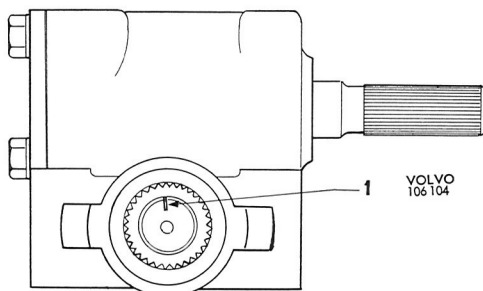

Fig. 6-62. Center position
- Place the steering gear in the middle position (Fig. 6-62). Remove the four bolts (1, Fig. 6-41) for the upper cover (6). Pull up the cover and pitman arm shaft a bit and drain the oil. Pull out the cover and pitman arm shaft.
- Remove the bolts and lower cover (19). Take care of the spacers (22).
- Carefully knock on the steering worm shaft (10) so that the lower bearing outer races come loose from the housing. Take out the steering worm with bearings.
7. Locate the steering gear centrally (see Fig. 6-62). Screw in the adjusting screw so far that